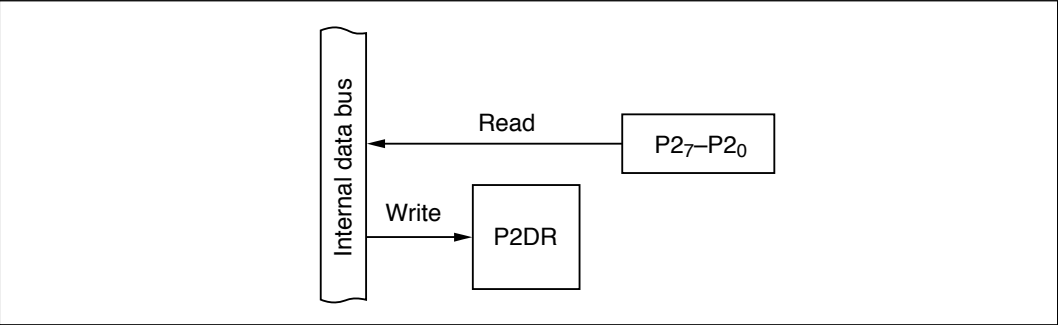

Figure 9-13 Input Port (Modes 2 and 7)
(2) Input Port (Modes 2 and 7): Figure 9-13 shows a block diagram illustrating the general-purpose input function. Table 9-8 indicates register read/write data. Values written in the port 2 data register (P2DR) have no effect on general-purpose input lines. When read, P2DR returns the value at the pin.